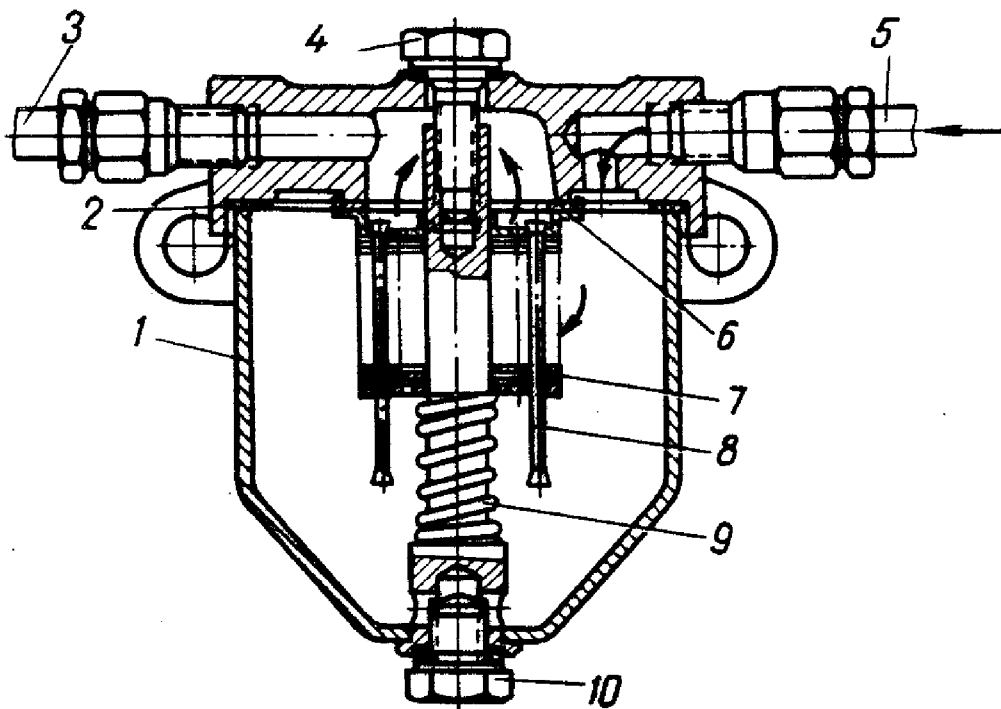

FIG.10. FUEL FILTER-SETTLER
8. Close the fuel pipeline cock and drain sediment from the fuel filter-settler (Fig.10).